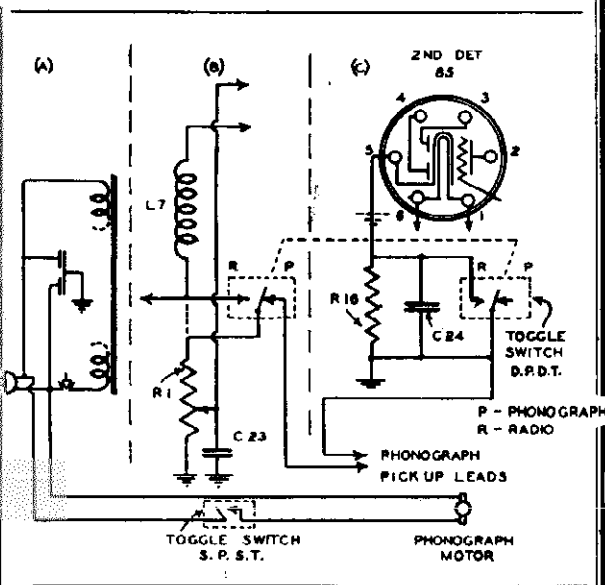

FIG. 1
- NOTES:** Export Model 86-X has Power Transformer (Part B-6271), equipped with primary voltage taps for operation at 125, 150 and 250 volts A. C. line. See schematic diagram and notes (Fig. 1) for Model 85-X.
THE MODEL 85-X PHONOGRAPH COMBINATION has the circuit changes shown in Fig. 1 in addition to the regular schematic diagram. The dotted lines in Sections (B) and (C) are shown solid in the regular schematic diagram and toggle switch (D. P. D. T.), condenser C24 and resistor R16 are added. Section (A) shows connections of toggle switch, Part A-5905, and phonograph motor on Model 85-X.
A PHONOGRAPH PICK-UP may be used with the Models 80, 83, 84 and 85-X by incorporating the toggle switch (D.P.D.T.), Part A-11561, condenser C24 (10 MFD., Part A-10377), resistor R-16 (5,000 ohms, 1/4 watt, Part B-5458-16), and the circuit changes shown in Fig. 1, Sections (B) and (C) only. The toggle switch may be mounted by drilling a 1/2-inch hole in the back of the chassis, 4 inches from the left hand side and 1 inch up from the bottom.